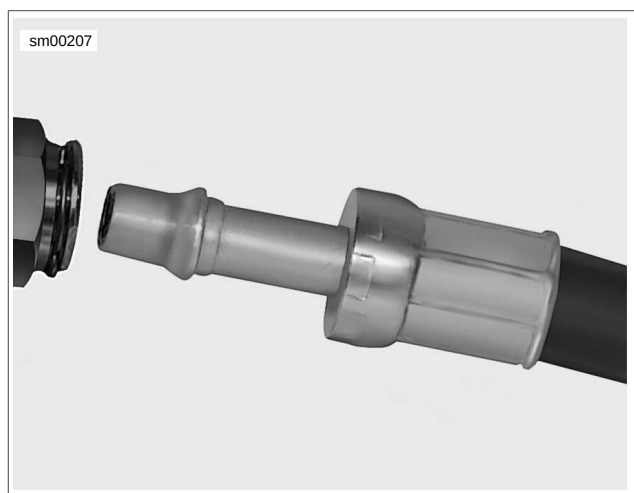

Figure 3-99. Flanged Oil Line
2. See Figure 3-99. Push the correct flanged oil line into the correct fitting in the swingarm until each one clicks in place under the spring clip.